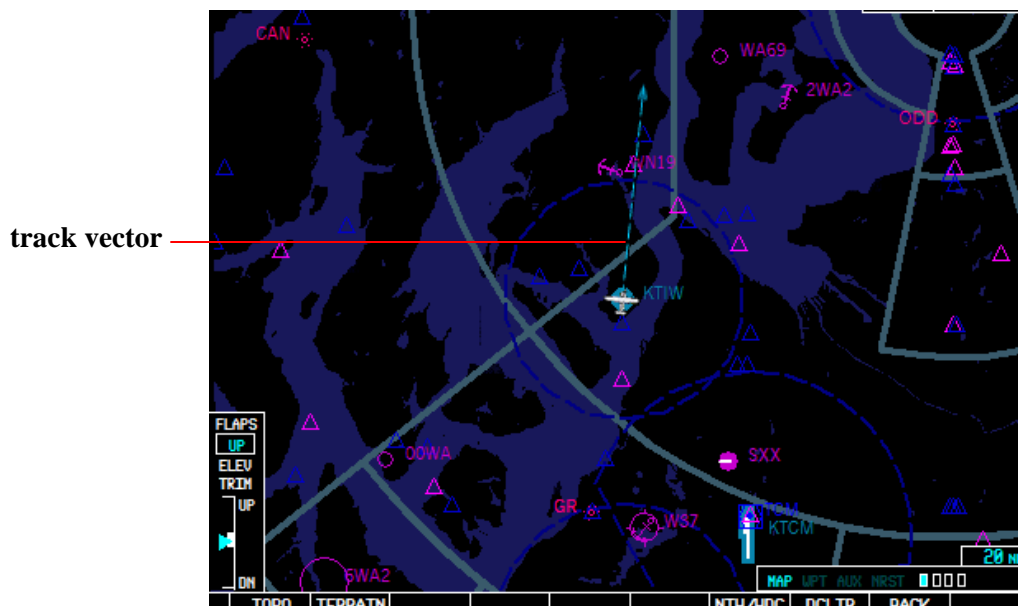

Figure 5.6
4. **track vector** - turn tracking vector on/off and set the “look-ahead” time. The tracking vector is a light blue, dashed line extending from the nose of the aircraft showing where the aircraft will be in a specified period of time if the current track is maintained (Figure 5.6). The default look-ahead time is 60 seconds; however the user can select times of 30 or 60 seconds, and 2, 5, 10 and 20 minutes. Off by default.